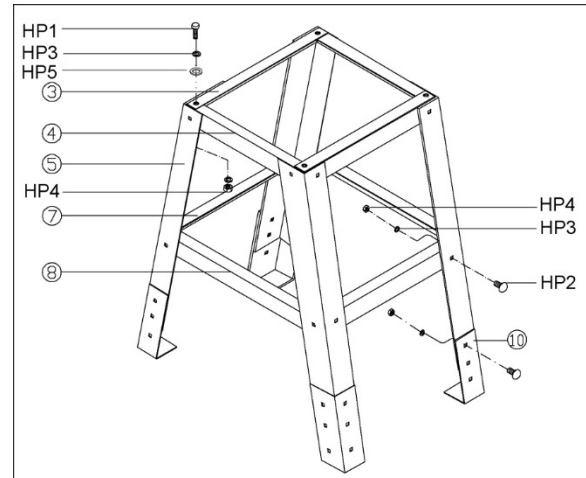

Figure 10: stand assembly (optional accessory)
Refer to Figure 10, or sect. 15.4.1.
1. Assemble stand pieces, referring to Figure 10. (Refer to exploded view, *sect. 15.4.1*, if further clarification is needed.) **Only hand-tighten** all fasteners at this time.
2. The leg extensions (#10, Figure 10) can be adjusted for height.